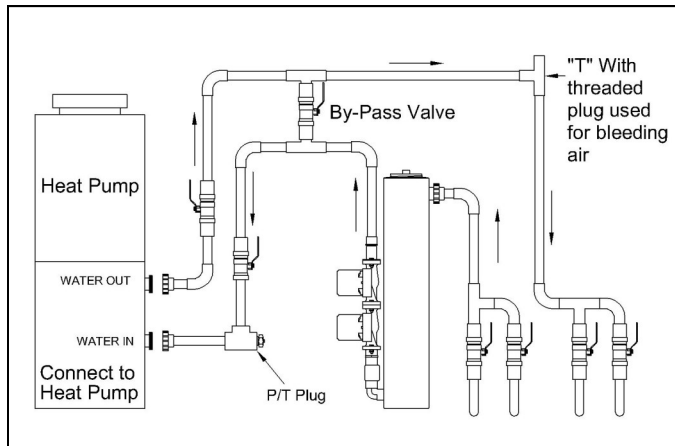

Fig. 4. Recommended Piping Schematic For Maximum Flexibility (Required With Internal Headers)
Fig. 4 Illustrates a recommended piping schematic that can be utilized when an internal header is used and separate purging of the heat pump and the ground loop is not required.
Piping is similar for either schematic with the exception of Fig. 4 showing all earth loops penetrating the mechanical area of the interior wall. Provide ball valves and P/T ports where indicated. Ball valves shall be the same as pipe size or greater. The flow center should be fastened to the wall with the bracket provided and all piping should be adequately supported. All piping shall be properly sized for the flow rate (GPM) required by the system. Reduce pipe size only at flow center and heat pump as necessary to make connections.
4. Close all loop header valves except one pair (See Fig. 4).